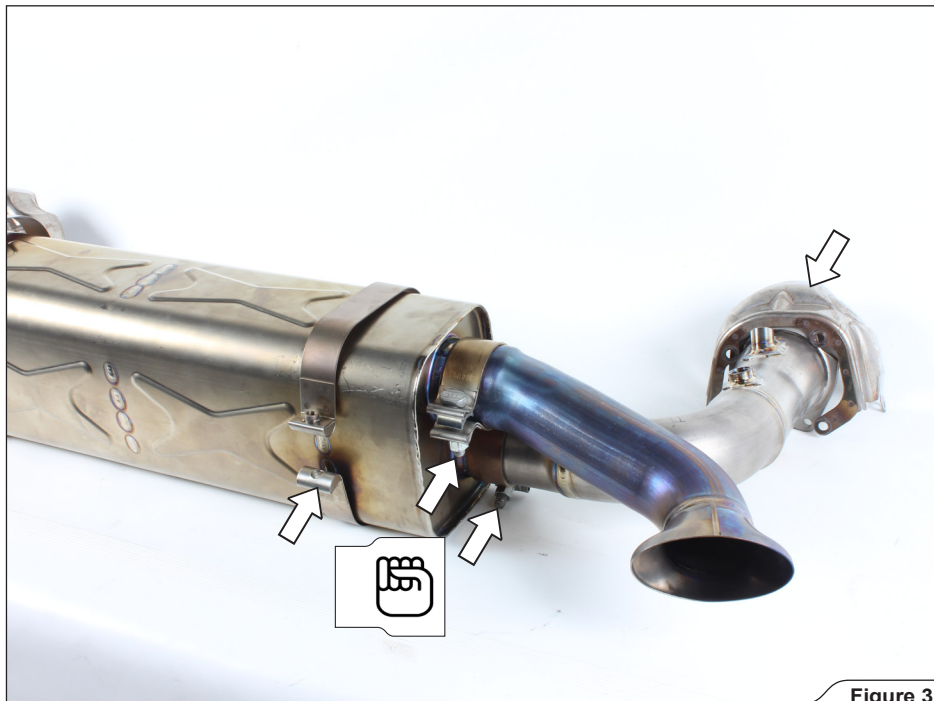

Figure 3
- (Link Pipe Set without catalytic converters: Figure 3).